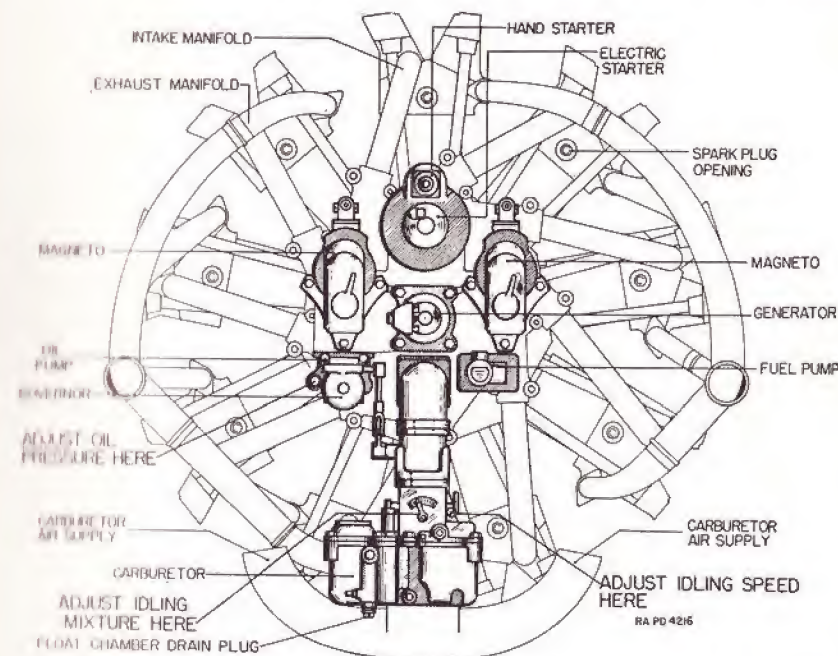

FIGURE 22.—Engine, showing accessories, adjustment of carburetor, and oil pressure.
42. General description (fig. 22).—*a.* The Wright Whirlwind R-975-EC2, a single row, air-cooled, radial, aviation type engine, is used.
b. The two magnetos, starter, generator, and fuel pump are mounted on the rear face of the rear crankcase section (fig. 22). The carburetor is mounted on the extreme lower end of the rear section.
46. **Oil pumps** (fig. 22).—*a.* The supply of oil in the engine crankcase is maintained by oil pumps which draw oil from the engine oil tanks located at the bulkhead between the engine and fighting compartments, or which circulate the oil within the engine itself. These are gear type pumps which are supported on the lower left side of the rear crankcase section in the case of the main pump, and in the nose section in the case of the other scavenge pump. The main pump is divided into two sections: a separate pressure pump and a scavenge pump. This scavenge pump returns the oil from the upper section of the sump to the oil filter. The scavenge pump located in the nose section removes oil from the lower section of the sump. Both return lines from the scavenge pumps join together before running into the Cumo filter. The main oil pump incorporates a pressure relief valve which comprises a spring-loaded ball that rises when the desired pressure is reached and allows the excess oil to be drained into the inlet side of the pump. Pressure regulation is accomplished by turning the adjusting screw clockwise to raise the pressure and counterclockwise to lower the pressure which raises or lowers the tension in the spring (see fig. 22). The oil pressure should be between 50 and 80 pounds per square inch in normal operation.
- (1) Remove rear top plate.
- (2) Remove mufflers and elbows by removing 4 bolts on each mounting elbow. The muffler can be disconnected from the engine exhaust manifold by unclamping the manifold connection and pushing the pipe on the manifold side up into the muffler in order to clear the two ends (see fig. 22).
- (1) Remove the terminal guard and disconnect leads.
- (2) All leads should be marked to identify their proper position for replacement.
- (3) Remove the four nuts holding the generator to the accessory case.
- (4) Loosen the generator retaining bracket nut and slide the generator to the rear.
54. Fuel pump (fig. 22).—*a. Description.*—The fuel pump is mounted on the engine accessory case to the right of the generator.
- (1) Close fuel shut-off valves. The two main valves are located in bulkhead below oil tank.
- (2) Remove cap screws and open rear doors to engine compartment.
- (3) Disconnect fuel lines attached to pump.
- (4) Remove locking wires and nuts holding the pump to the accessory case.
- (5) Remove pump.
- (6) To replace pump reverse the procedure.
55. Carburetor (fig. 22).—*a. Description.*—The carburetor is attached directly to the intake manifold in the bottom of the engine crankcase.